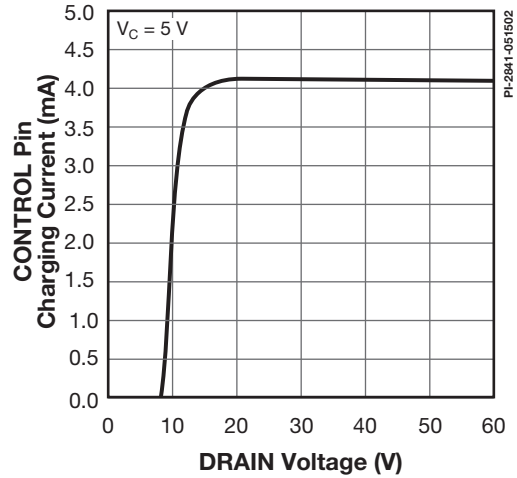

Figure 45. I_c vs. DRAIN Voltage.
- It is possible to start up and operate DPA-Switch at DRAIN voltages well below 16 V. However, the CONTROL pin charging current is reduced, which affects start-up time, auto-restart frequency, and auto-restart duty cycle. Refer to Figure 45, the characteristic graph on CONTROL pin charge current (I_L) vs. DRAIN voltage for low voltage operation characteristics.